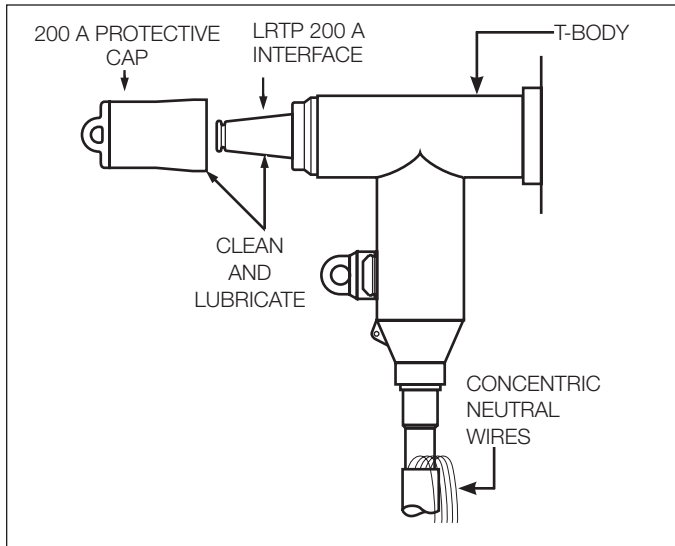

Figure 17.
- Clean and lubricate the 200 A interface of the LRTP and mating apparatus (i.e., Protective Cap, Grounding Elbow or M.O.V.E. Arrester) with lubricant supplied. (Refer to Figure 17.)